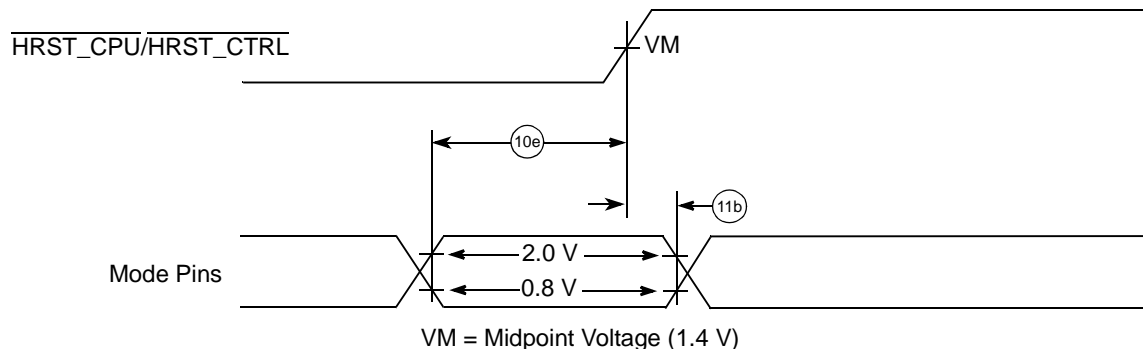

Figure 10. Input Timing Diagram for Mode Select Signals
- All mode select input signals specifications are measured from the TTL level (0.8 or 2.0 V) of the signal in question to the $V_M = 1.4 \text{ V}$ of the rising edge of the HRST_CPU/HRST_CTRL signal. See Figure 10.
Figure 10 shows the input timing diagram for mode select signals.
| 12a | PCI_SYNC_IN to output valid, 66 MHz PCI, with $\overline{\text{MCP}}$ in the default logic 1 state and CKE pulled down to logic 0 state (see Figure 10) | — | 6.0 | ns | 2, 4 |
| | PCI_SYNC_IN to output valid, 33 MHz PCI, with $\overline{\text{MCP}}$ and CKE in the default logic 1 state (see Figure 10) | — | 8.0 | ns | 2, 4 |
| 13a | Output hold, 66 MHz PCI, with $\overline{\text{MCP}}$ in the default logic 1 state and CKE pulled down to logic 0 state (see Figure 10) | 1.0 | — | ns | 2, 4, 5 |
| | Output hold, 33 MHz PCI, with $\overline{\text{MCP}}$ and CKE in the default logic 1 state (see Figure 10) | 2.0 | — | ns | 2, 4, 5 |